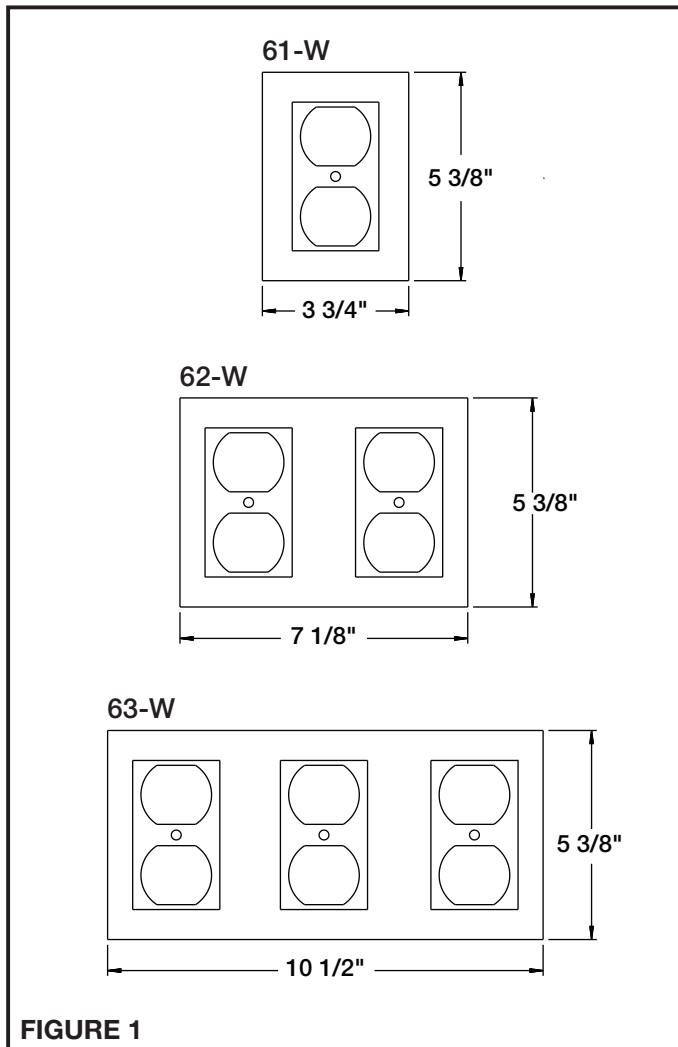

FIGURE 1
1. Determine desired position of the box, then cut a hole in the floor per the dimensions found in figure 1 for each model.